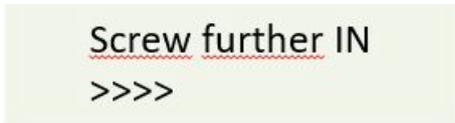

Fig. 44: Arrows displayed
- Screw the adjust screw carefully clockwise. While screwing, you will see an increasing amount of arrows shown in the display (see Fig. 44).